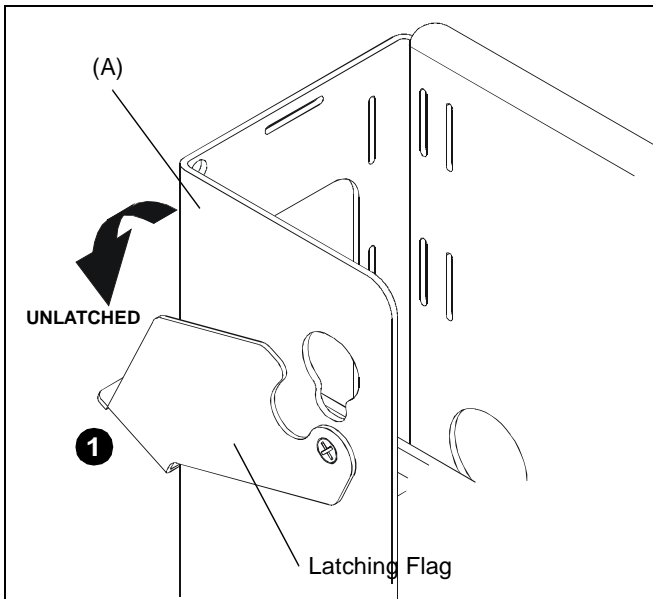

Figure 4
1. Make sure latching flag is in the UNLATCHED position (See Figure 4).